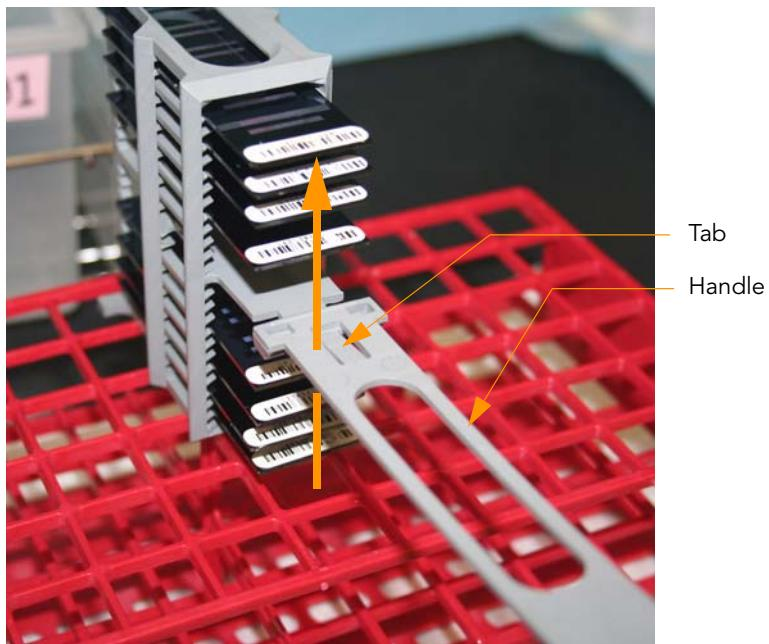

Figure 151 Removing Staining Rack Handle
19. Holding the top of the staining rack in position, grasp the handle between your thumb and forefinger. Push the tab up with your thumb and push the handle away from you to unlock it. Pull up the handle and remove (Figure 151).